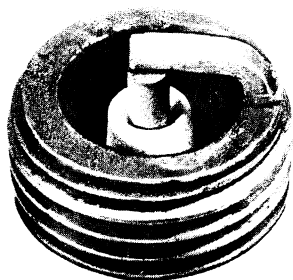

Fig. 21-32 Spark plug, normal condition (AC Spark Plug Division of General Motors Corporation)
1. Normal plug condition (Fig. 21-32).